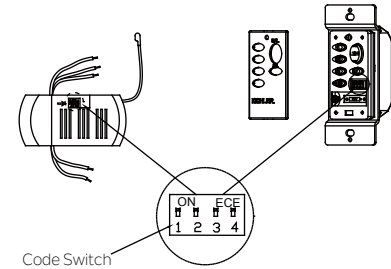

Fig. 29
**Step 1.** You can leave the frequency switches at the factory setting. Or you have to change the dip switch setting in the remote if you are using more than one fan in the same area and want to control them separately. Remove the battery and change the dip switch setting, assuring that they are different from the other fans. Reinstall the battery and switch plate on the control. (Fig. 29)